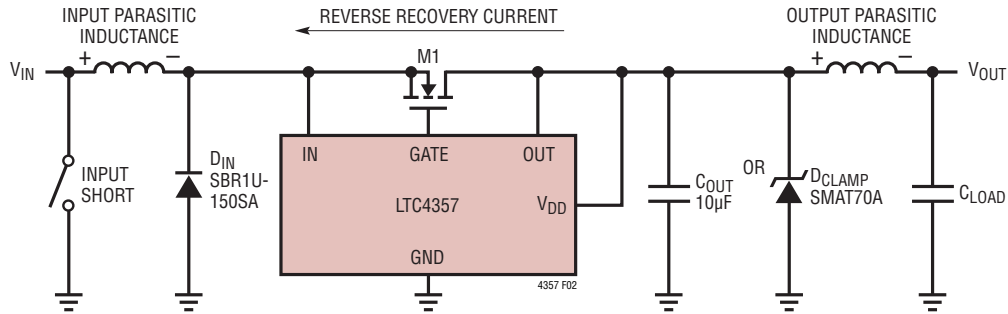

Figure 2. Reverse Recovery Produces Inductive Spikes at the IN and OUT Pin. The Polarity of Step Recovery Spikes is Shown Across Parasitic Inductances
*SEE FIGURES 2 AND 3 FOR ADDITIONAL OPTIONAL COMPONENTS
To prevent damage to the LTC4357 under conditions of input short-circuit, protect the IN pin and OUT pin as shown in Figure 2. The IN pin is protected by clamping to the GND pin in the negative direction. Protect the OUT pin with a clamp, such as with a TVS or TransZorb, or with a local bypass capacitor of at least 10μF. In low voltage applications the MOSFET's drain-source breakdown may be sufficient to protect the OUT pin, provided $BV_{DSS} + V_{IN} < 100V$.